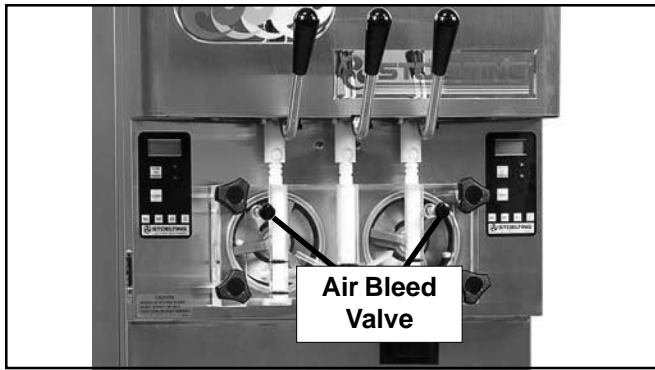

Figure 3-8 Air Bleed Valve
- B. Place the mix pump switch in the ON position and open the air bleed valve on the front door by pushing the valve in and holding (see Figure 3-8).